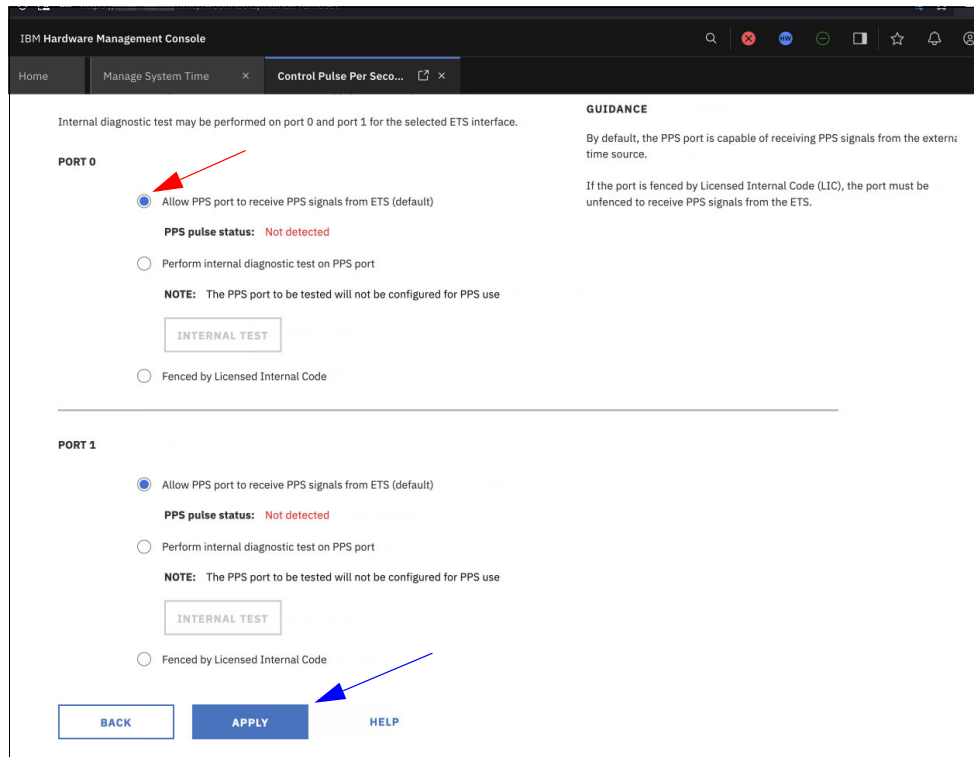

Figure 4-66 Update port status after Internal diagnostic test
9. To receive a signal, ensure that the default **Allow PPS port to receive PPS signals from ETS** is selected and click **APPLY** to update the port status. (Figure 4-66 on page 104). Repeat the step for both PPS designated ports.